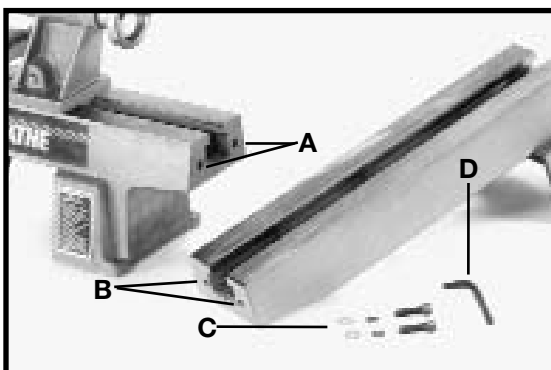

Fig. 32
1. Align the two holes in the end of the lathe bed (A) Fig. 32 with the two holes in the end of bed extension (B) and fasten with two M10 x 40 x 1-1/2" allen head screws, lockwashers, and flat washers (C), using the supplied wrench (D).